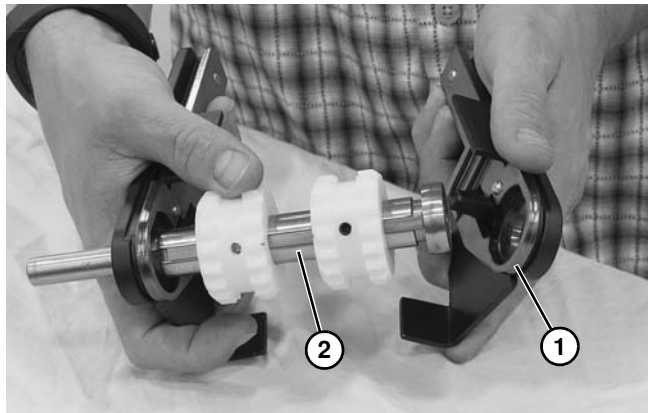

Figure 51
6. Remove head plate (**Figure 51, item 1**) and spindle (**Figure 51, item 2**).